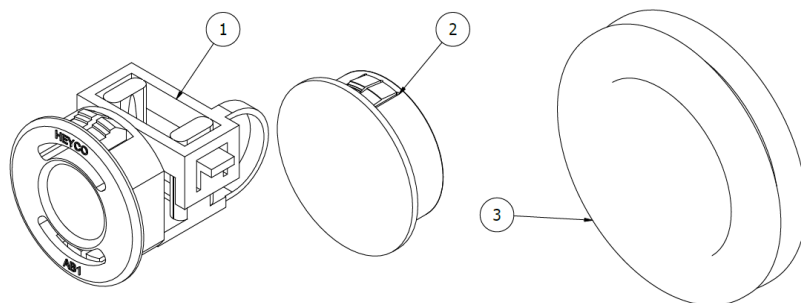

Figure 8: Cable and tube interfaces
- Move the cable strain relief fittings to the side you wish to make the entries/exits. Cover all other holes in the enclosure with the supplied blanking grommets (Figure 8).
- Wire the cable via the appliance case grommets and into the control box housing (Figures 8, 12.1 and 12.2).